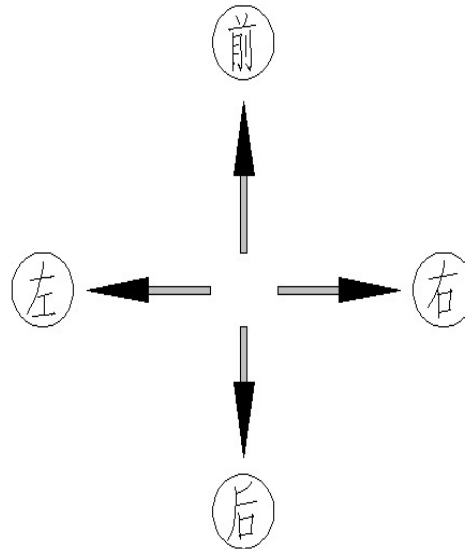

Figure 17 RIGHT HANDLE OPERATION SCHEME
1. Remove the rubber rectangle band, the end of rectangle band is near the top left corner in the rear window (as shown Figure 17);